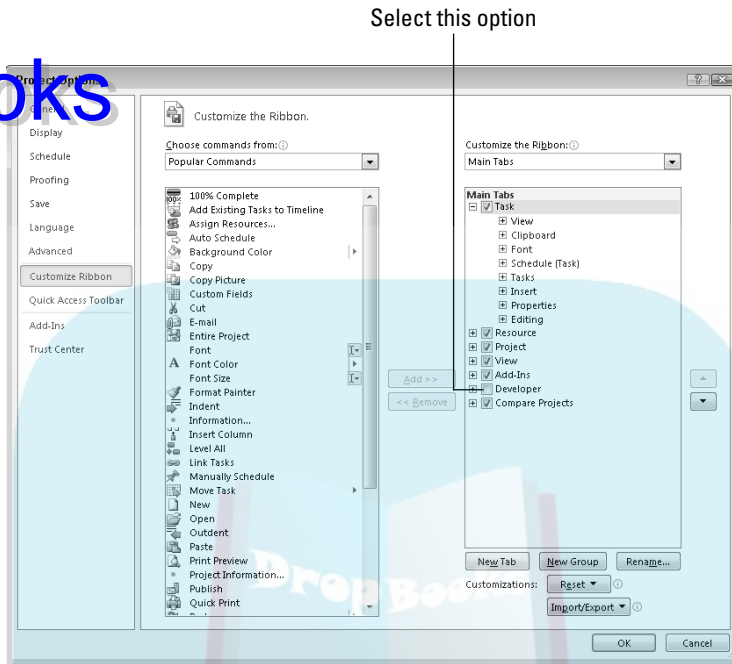

Figure 17-7:
3. **Select the Developer check box in the Main tabs list at the right (see Figure 17-7)**.